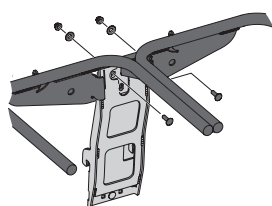

Figure 5
1. Install and secure hanger assembly onto the vertical support using two carriage bolts (710-0276), two cup washers (736-0242) and two lock nuts (712-04063) from hardware pack 689-00567. See Figure 5.